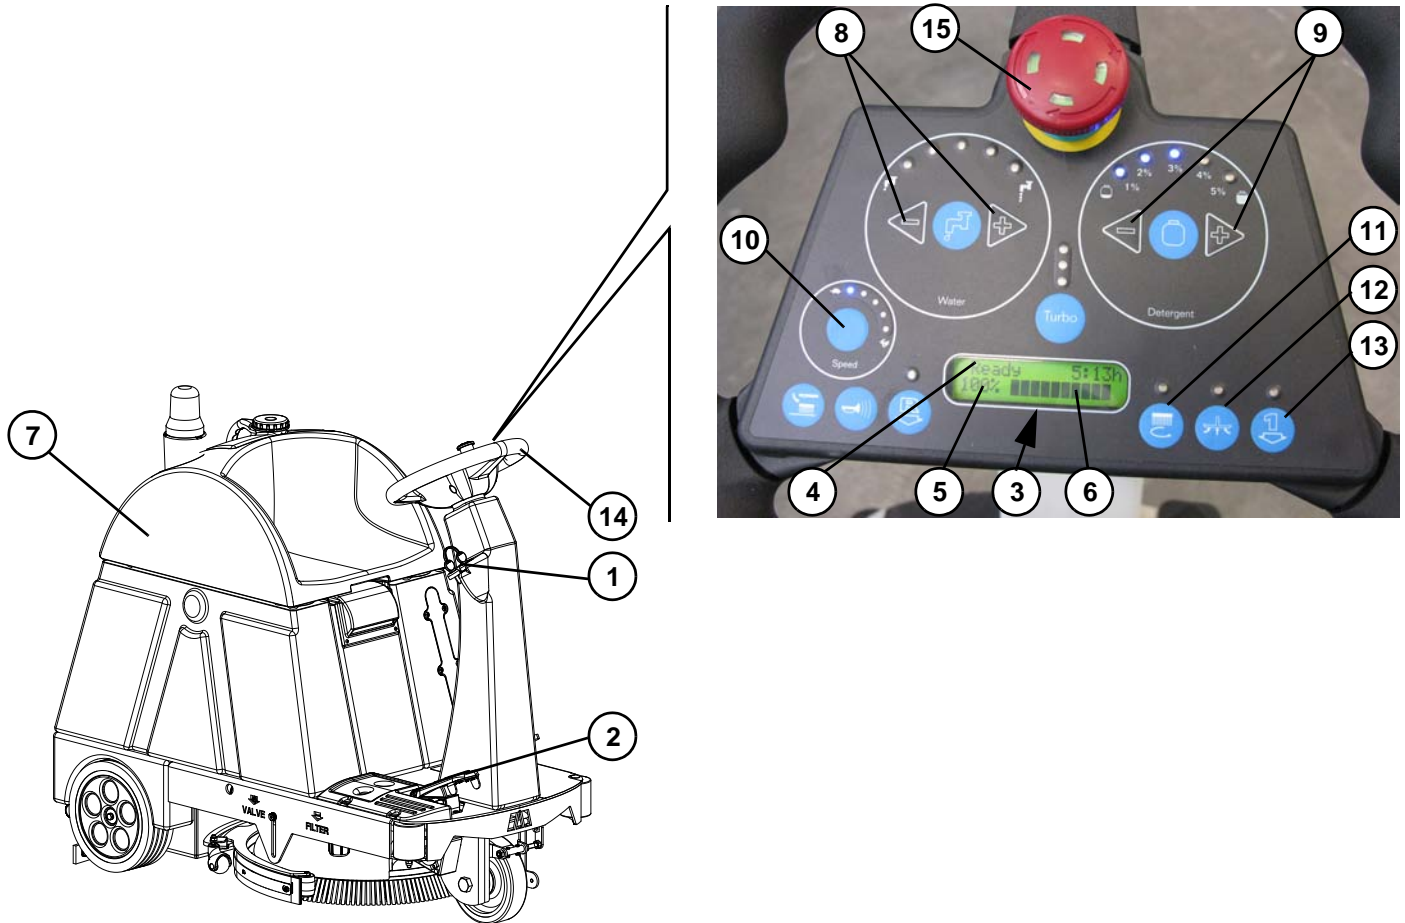

Figure 4-2
2. Seat up on the machine seat (7, **Figure 4-2**).
3. Turn the start up key (1, **Figure 4-2**) on "I"; wait a few seconds until on the display (3) appears the machine-is-ready caption (4) "READY".
In the event that the start up key is turned (1, **Figure 4-2**) without being seated on the seat, in the display area (4) appears caption "SIT DOWN" and no function of the machine is available.
4. Check the state of the battery charges by observing the percent indication (5, **Figure 4-2**) and the graphic indication (6).
5. Go to the workplace, by starting up the machine with the hands on the steering wheel and by pressing the pedal (2, **Figure 4-2**).
The speed of moving is adjustable from zero to its maximum set value, depending on the pressure exerted on the pedal (2, **Figure 4-2**)
6. If necessary, through the buttons (8, **Figure 4-2**) adjust the capacity of the detergent solution (or water for washing).
7. (Optional) If necessary, through the buttons (9, **Figure 4-2**) adjust the percentage of the detergent for washing.
8. If necessary, through the button (10, **Figure 4-2**) adjust the maximum speed of the machine.
9. To start washing the pavement, activate the disc brush (or cylindrical brushes) through the button (11, **Figure 4-2**).
10. To start drying of the pavement, activate suction through the button (12, **Figure 4-2**).
11. To start both washing and drying of the pavement, activate the button (13, **Figure 4-2**).
12. Start cleaning work by handling through the hands the steering wheel (14, **Figure 4-2**) and by driving forward the machine by pressing appropriately the pedal (2).
13. Release the pedal (2, **Figure 4-2**).
14. Press the buttons (11, **Figure 4-2**) or (12) or (13,) to deactivate and lift the respective active operations. Suction stops a few seconds after activation of the related button, for sucking all the water present in the piping.
15. Turn the start up key (1, **Figure 4-2**) on "0", and then extract it.
17. To stop immediately the machine in the event of an emergency, press the button (15, **Figure 4-2**).